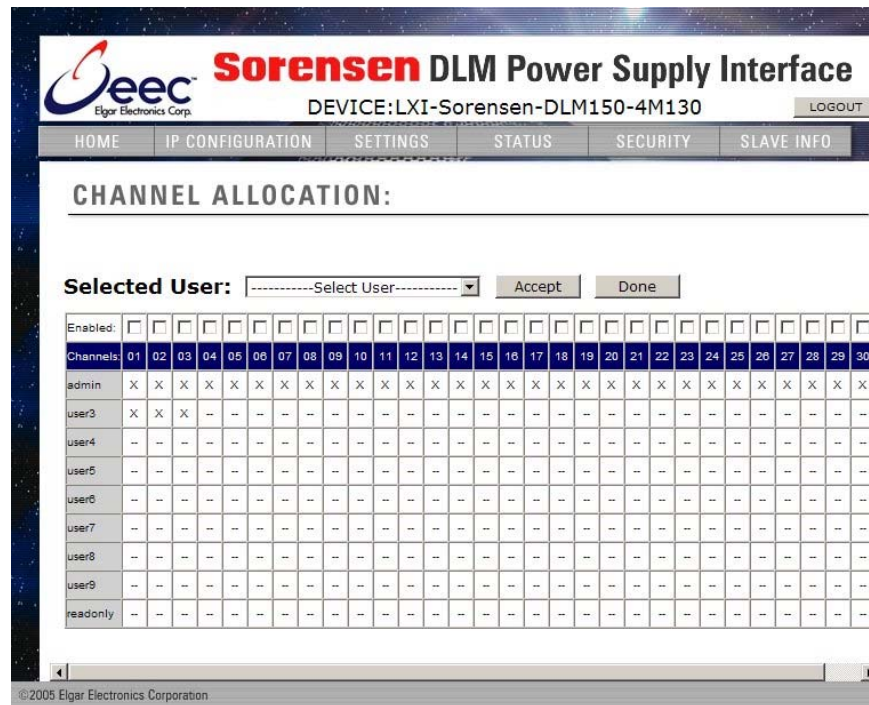

Figure 2-25. Channel Allocation Window from Security Page
- **Allocate Channels:** click to pull up the Channel Allocation page, which presents a matrix of all users and all possible power supply channels, whether they are in the system or not. (See Figure 2-25).